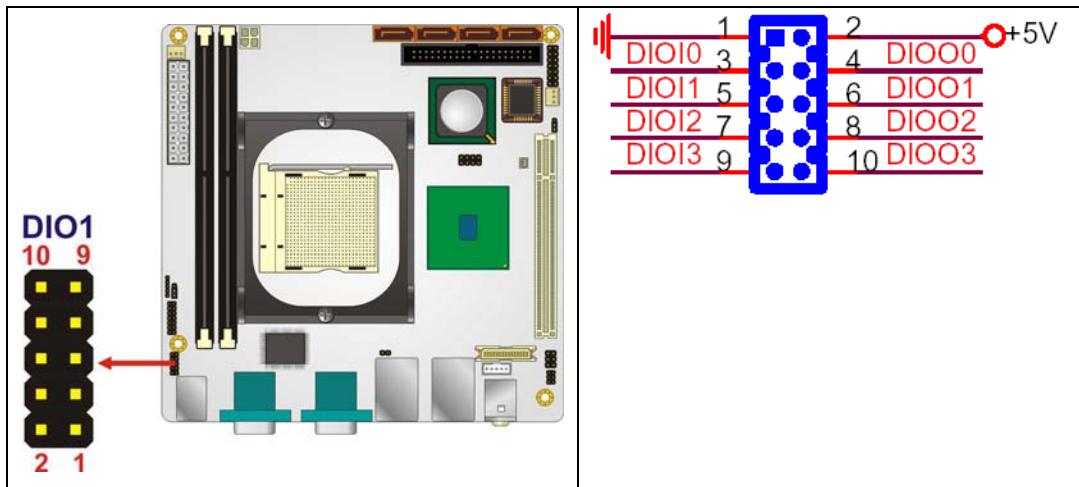

Figure 4-7: DIO Connector Connector Locations
- CN Location:** See Figure 4-7